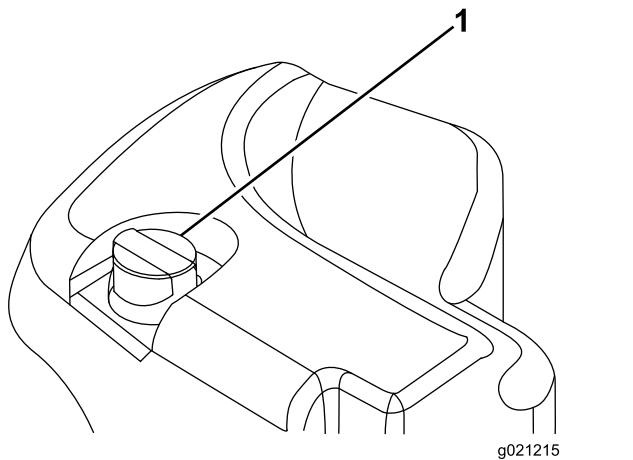

Figure 29
2. Clean the area around the filler neck and cap of the hydraulic tank (Figure 29). Remove the cap from the filler neck.